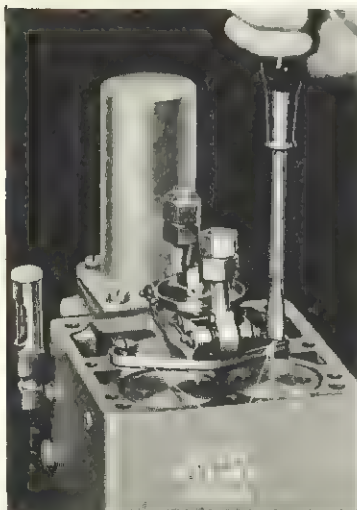

FIG. 1-1
1. Unscrew two flathead screws in retainer plate and remove screws, Fig. 1-1.